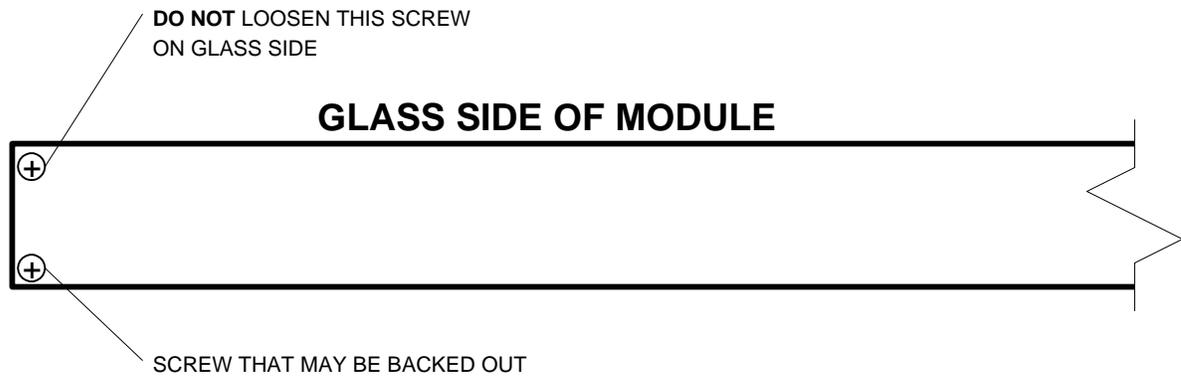

Figure 5 - Location of screw that may be used as a point of grounding
- 3) **Use Lower Frame Screw:** Another method of attaching a ground conductor to a module frame is to secure a spade terminal lug to the module frame by using one of the module's screws. Each corner of the module frame has two screws. You may back out one of the screws used to attach the frame pieces at any corner of the module. *Select the screw opposite the front glass and next to the bottom flange of the module frame.* See Figure 5 for an illustration of which screw may be used. Back this screw out just enough to insert a spade terminal. Avoid removing the screw completely to ensure integrity of the connection by using the same tapped threads. This method can be used to insert spade-type terminals up to 5/16" [8 mm] thick. Be mindful of the effects of galvanic corrosion with any metal pressed against the module frame.